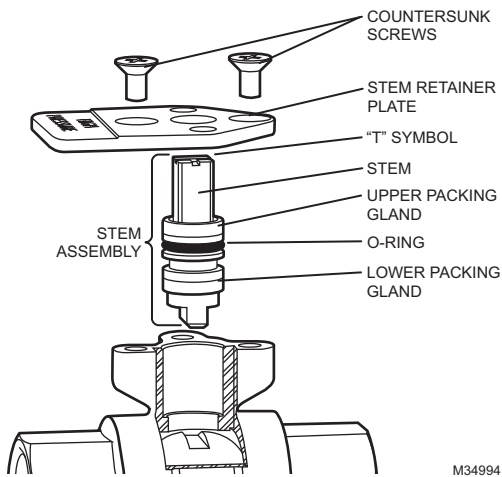

Fig. 41. Replacing the valve stem in-line.
The valve stem can be replaced in-line, if necessary. See Fig. 41.
7. Slide the sub shaft over the stem with the tab oriented as shown in Fig. 41.